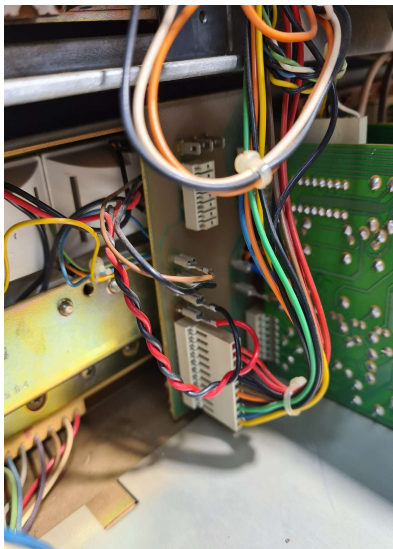

Figure 5
- The Red cable connects to the **terminal P13 +20V**(1st from the bottom). (Figure 5)
- The Black cable connects to the **terminal P12 Masse** (1nd from the bottom). (Figure 5)